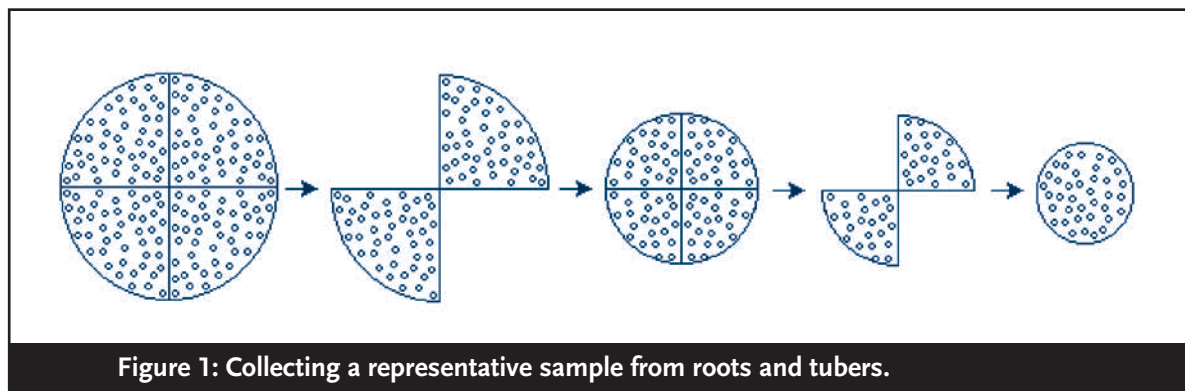

Figure 1: Collecting a representative sample from roots and tubers.
- *Pile the grains evenly on a clean acid-washed tray, flatten the pile, and spread the grains in a circle (see Figure 1). Divide the circle into four roughly equal parts. Discard two diametrically opposite quarters, and remix the remaining two parts. Repeat the quartering procedure until the amount of grains is reduced to the amount of sample required for the experiment.*
For roots and tubers, the method illustrated in Figure 1 also can be applied. Divide each root or tuber into four roughly equal parts, and discard two diametrically opposite quarters; combine the two remaining quarters as the representative sample. To account for variation between roots or tubers on the same plant, combine diametrically opposite quarters from several tubers or roots from the same plant.